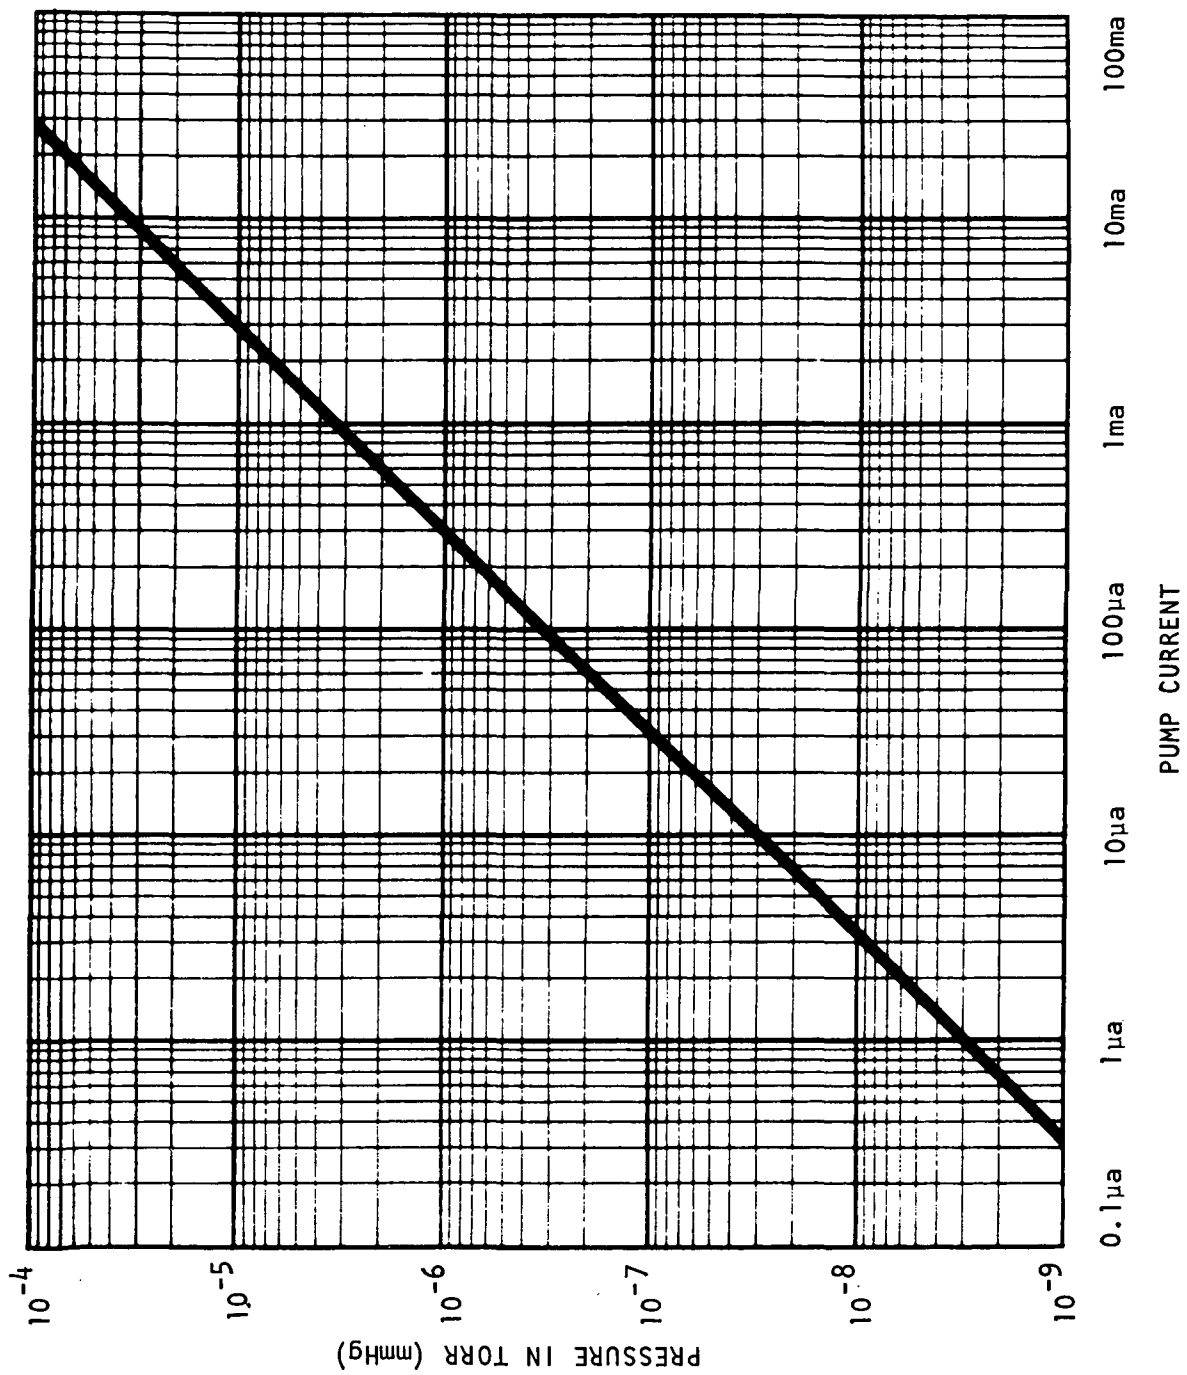

FIGURE 2-1
- g. Turn the L.V. P/S switch ON. This activates all the low voltage power supplies and thermocouple gage vacuum indication (TC). Verify all low voltage power supplies with digital test meter. Verify TC with analog meter. Allow about 1 minute warm up for the TC circuit. If the TC reading is above 2 μ A (on the 0-20 μ A scale) and the ROUGH COMP lamp does not light, the vacuum system will have to be roughed down with the external mechanical roughing pump (see Section 2.2).
- i. Turn the ION PUMP power switch ON and observe the ion pump current. As the pressure reduces the ion pump current will go down and its progress can be observed. By referring to Figure 2-1 the relationship between pressure and current can be made.